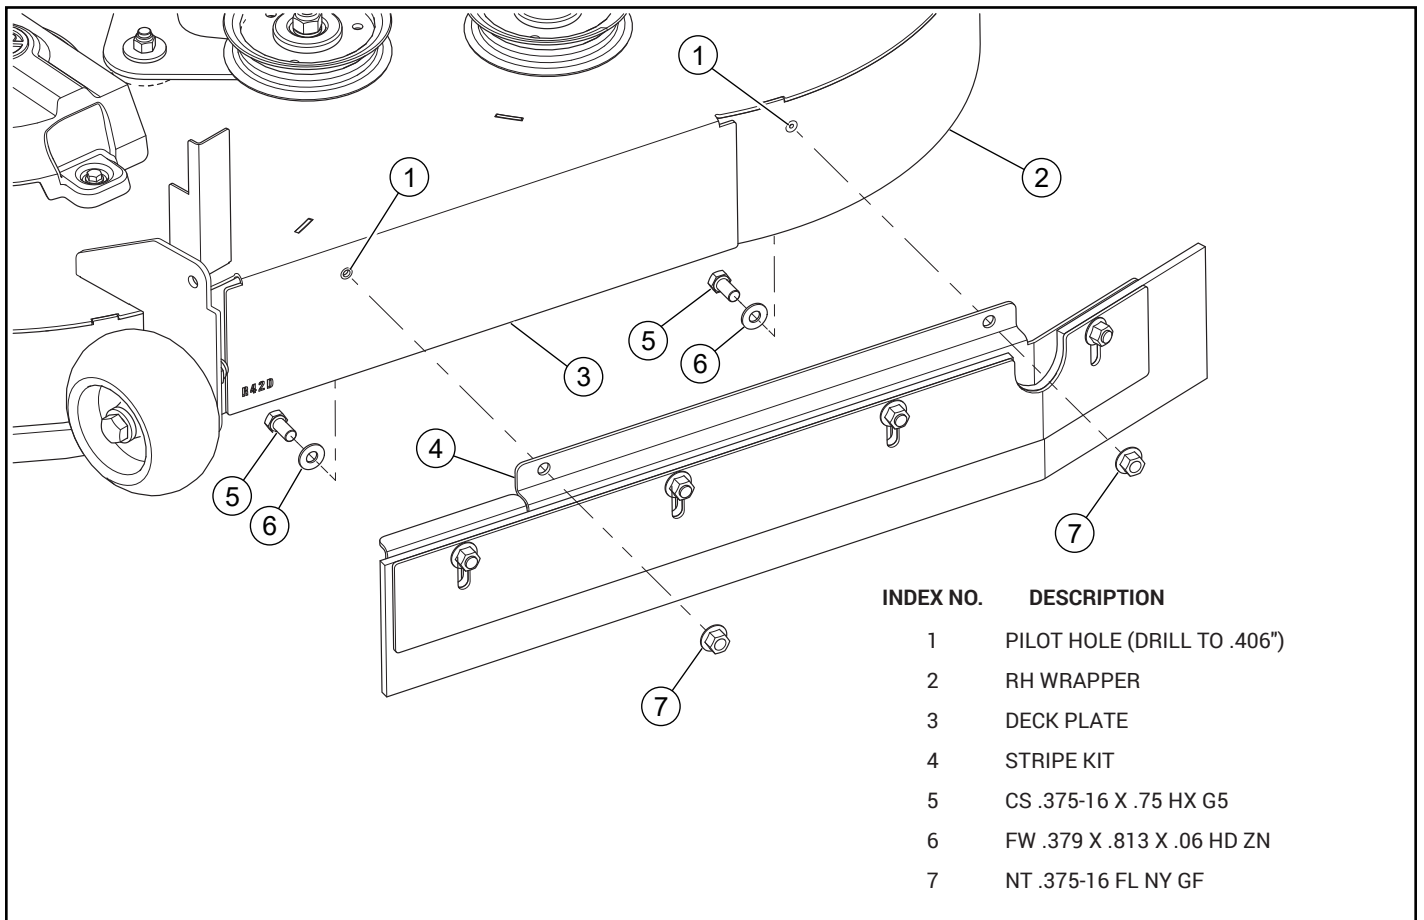

FIG. 2
4. Locate the pilot holes on the right rear wrapper and back of the deck. Drill the pilot holes out to .406". Fig. 2
5. Attach the stripe kit to the deck and right rear wrapper with the hardware provided. Fig. 2